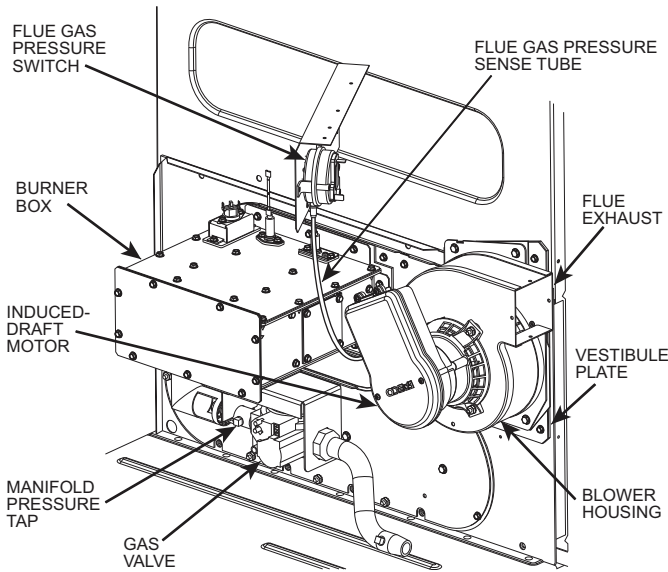
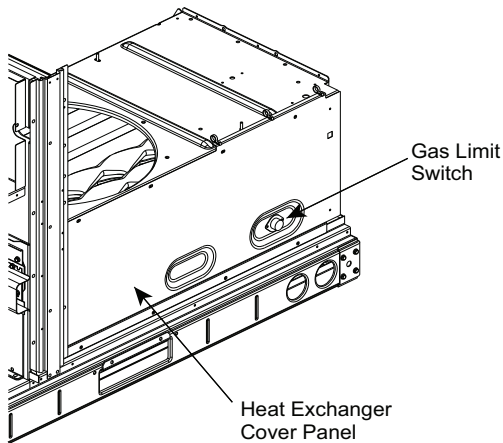

Fig. 50 — Burner Section Details
Fig. 51 — Gas Limit Switch Location
The heat exchanger system consists of a gas valve feeding multiple in-shot burners off a manifold. The burners fire into matching primary tubes. The primary tubes discharge into combustion plenum where gas flow converges into secondary tubes. The secondary tubes exit into the induced draft fan wheel inlet. The induced fan wheel discharges into a flue passage and flue gases exit out a flue hood on the side of the unit. The induced draft fan motor includes a flue gas pressure switch circuit that confirms adequate wheel speed through the Integrated Gas Control (IGC) board. Safety switches include a Rollout Switch (at the top of the burner compartment; see Fig. 50) and a limit switch (mounted through the heat exchanger cover panel, over the tubes). (See Fig. 51.)
See Fig. 50, 52, 54 and 55.
10. Remove the pressure switch hose from the connection on the flue cover assembly (see Fig. 50).